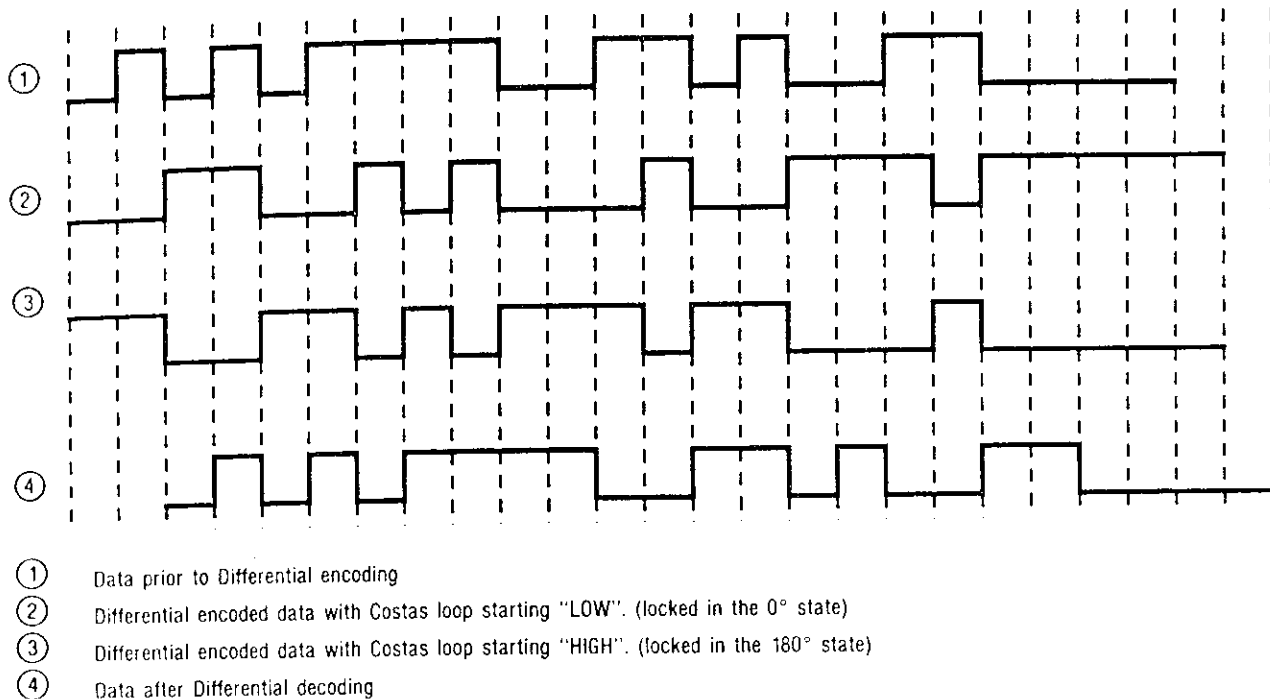

Figure 3-12. Differential Encoding/Decoding Diagrams
Figure 3-12 shows an example of differential encoding and decoding. The principle used is that the encoder will cause a data transition (1 to 0 or 0 to 1) at the encoder output (2 and 3) if the input data bit was a "1" (1), and there will not be a transition if the input data bit was a "0". On the receive side, the decoder will look at two encoded bits to determine if there was a data transition, or not. If there was a transition then it is decoded as a "1", if not, it is decoded as a "0" (4). From this, it can be seen that the decoded data (4) is always in phase with the original data (1) regardless of the phase of the encoded data, or the phase of the Costas loop (2 and 3).